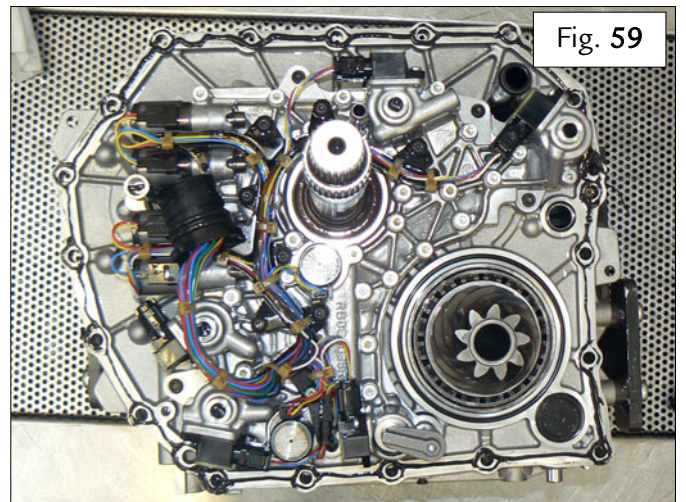

Fig. 59
- The continuous bead of **Loctite 5970** must look like the example shown in the photo aside – Fig. 59.